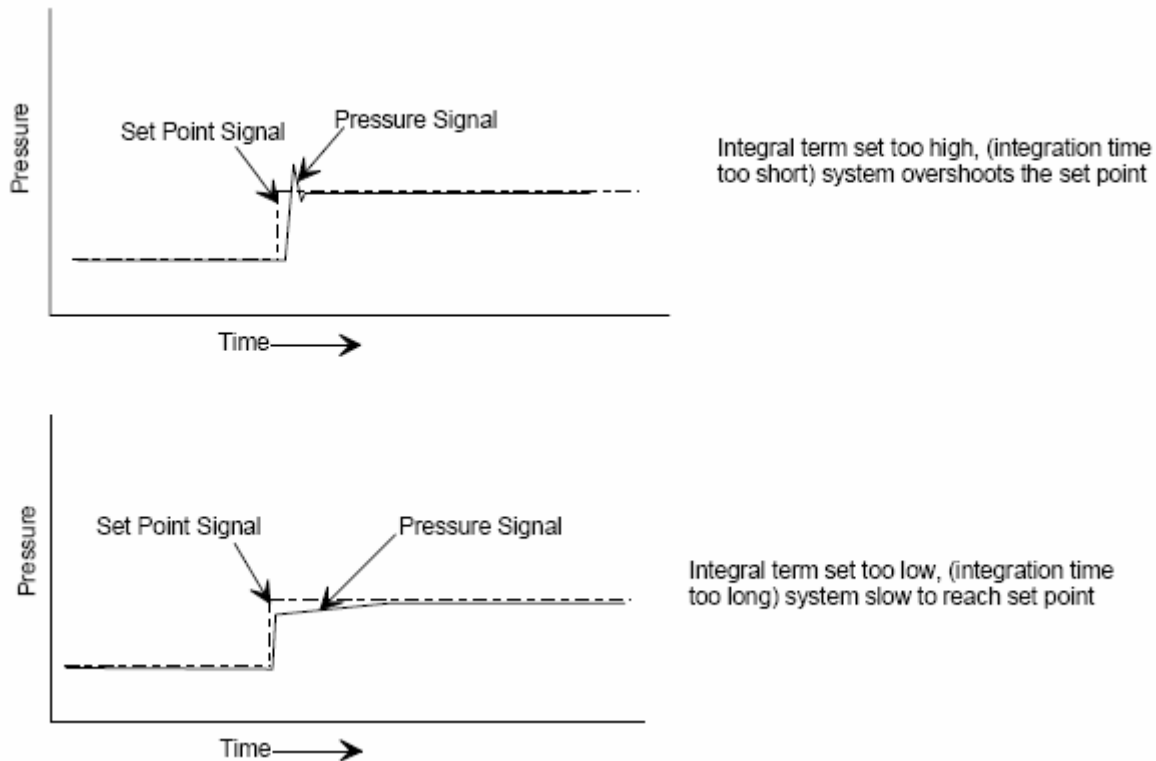

Figure 37: Effects of the Integral Control
The action of the Integral (I) term creates a valve drive signal that is proportional to the magnitude and sign of the area under the error signal curve (error signal with respect to time). Therefore, as time passes, the integral term acts to position the valve to reduce the error signal to zero. A decrease in the integral control setting (K_i) increases the period of time over which the error signal is generated, and the system response gets slower. Figure 37 shows the effects of the Integral term.